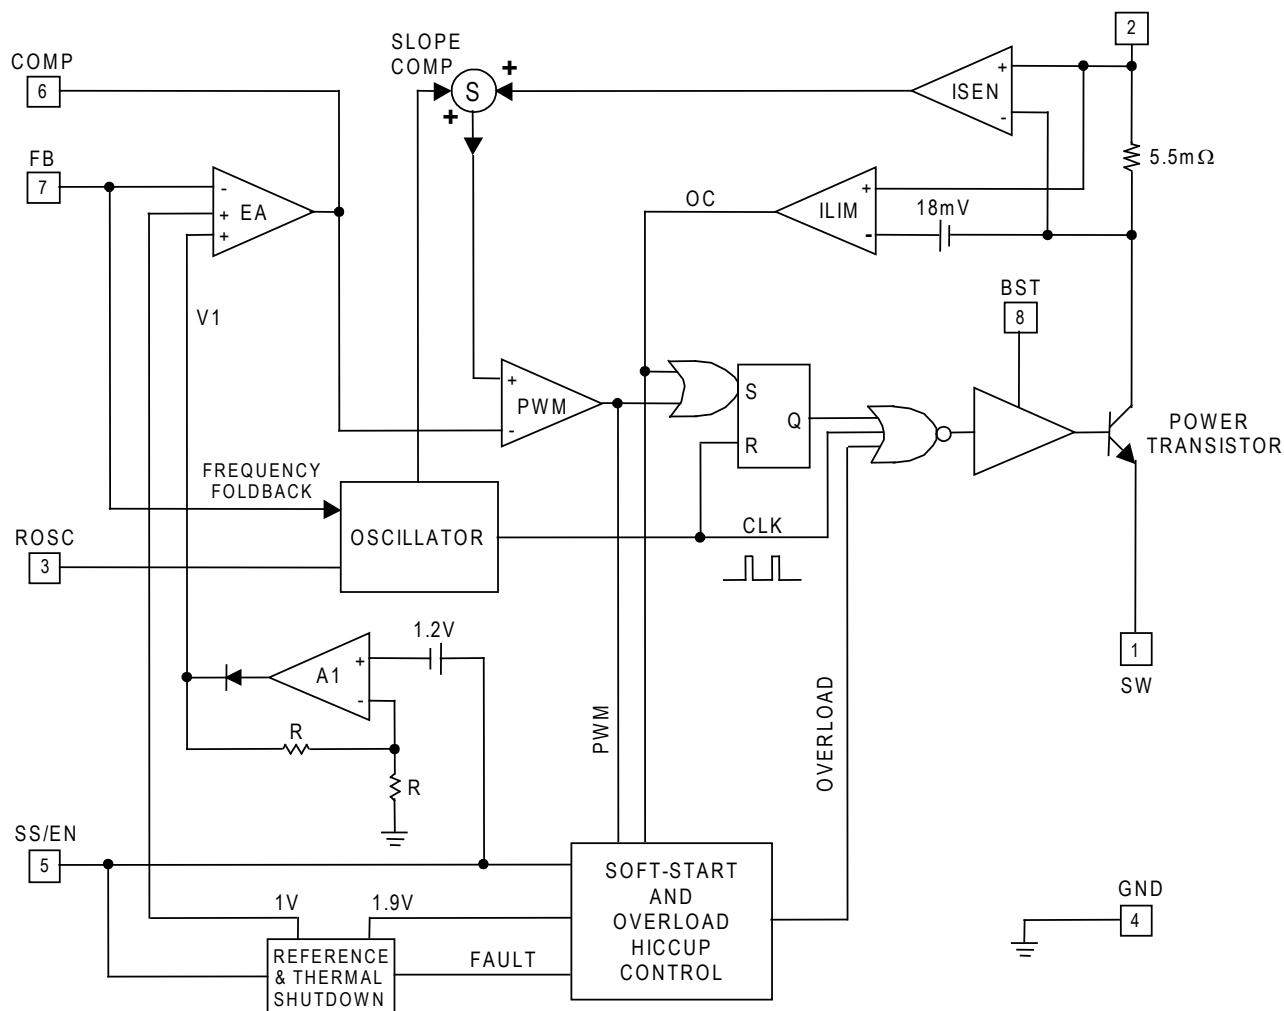

Figure 2 — SC4524C Block Diagram
As shown in Figure 2, the switch collector current is sensed with an integrated 5.5mΩ sense resistor. The sensed current is summed with a slope-compensating ramp before it is compared with the transconductance error amplifier (EA) output. The PWM comparator trip point determines the switch turn-on pulse width. The current-limit comparator ILIM turns off the power switch when the sensed signal exceeds the 18mV current-limit threshold.
The error amplifier EA in Figure 2 has two non-inverting inputs. The non-inverting input with the lower voltage predominates. One of the non-inverting inputs is biased to a precision 1V reference and the other non-inverting input is tied to the output of the amplifier A_1 . Amplifier A_1 produces an output $V_1 = 2(V_{SS/EN} - 1.2V)$. V_1 is zero and COMP is forced low when $V_{SS/EN}$ is below 1.2V. During start up, the effective non-inverting input of EA stays at zero until the soft-start capacitor is charged above 1.2V. Once $V_{SS/EN}$ exceeds 1.2V, COMP is released. The regulator starts to switch when V_{COMP} rises above 0.4V. If the soft-start interval is made sufficiently long, then the FB voltage (hence the output voltage) will track V_1 during start up. $V_{SS/EN}$ must be at least 1.83V for the output to achieve regulation. Proper soft-start prevents output overshoot. Current drawn from the input supply is also well controlled.
becomes armed. As the load draws more current from the regulator, the current-limit comparator ILIM (Figure 2) will eventually limit the switch current on a cycle-by-cycle basis. The over-current signal OC goes high, setting the latch B_3 . The soft-start capacitor is discharged with $(I_D - I_C)$ (Figure 3). If the inductor current falls below the current limit and the PWM comparator instead turns off the switch, then latch B_3 will be reset and I_C will recharge the soft-start capacitor. If over-current condition persists or OC becomes asserted more often than PWM over a period of time, then the soft-start capacitor will be discharged below 1.9V. At this juncture, comparator B_4 sets the overload latch B_2 . The soft-start capacitor will be continuously discharged with $(I_D - I_C)$. The COMP pin is immediately pulled to ground. The switching regulator is shut off until the soft-start capacitor is discharged below 1.0V. At this moment, the overload latch is reset. The soft-start capacitor is recharged and the converter again undergoes soft-start. The regulator will go through soft-start, overload shutdown and restart until it is no longer overloaded.
The PWM latch in Figure 2 is reset every cycle by the clock. The clock also turns off the power transistor to refresh the bootstrap capacitor. This minimum off time limits the attainable duty cycle of the regulator at a given switching frequency. The measured minimum off time is 100ns typically. If the required duty cycle is higher than the attainable maximum, then the output voltage will not be able to reach its set value in continuous-conduction mode.